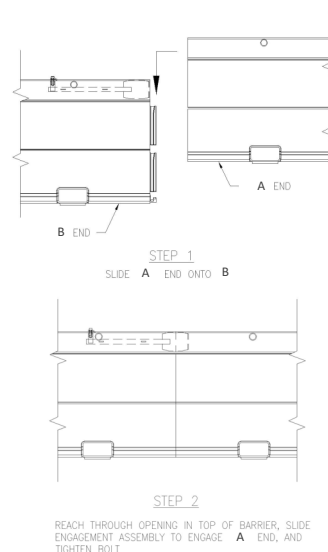
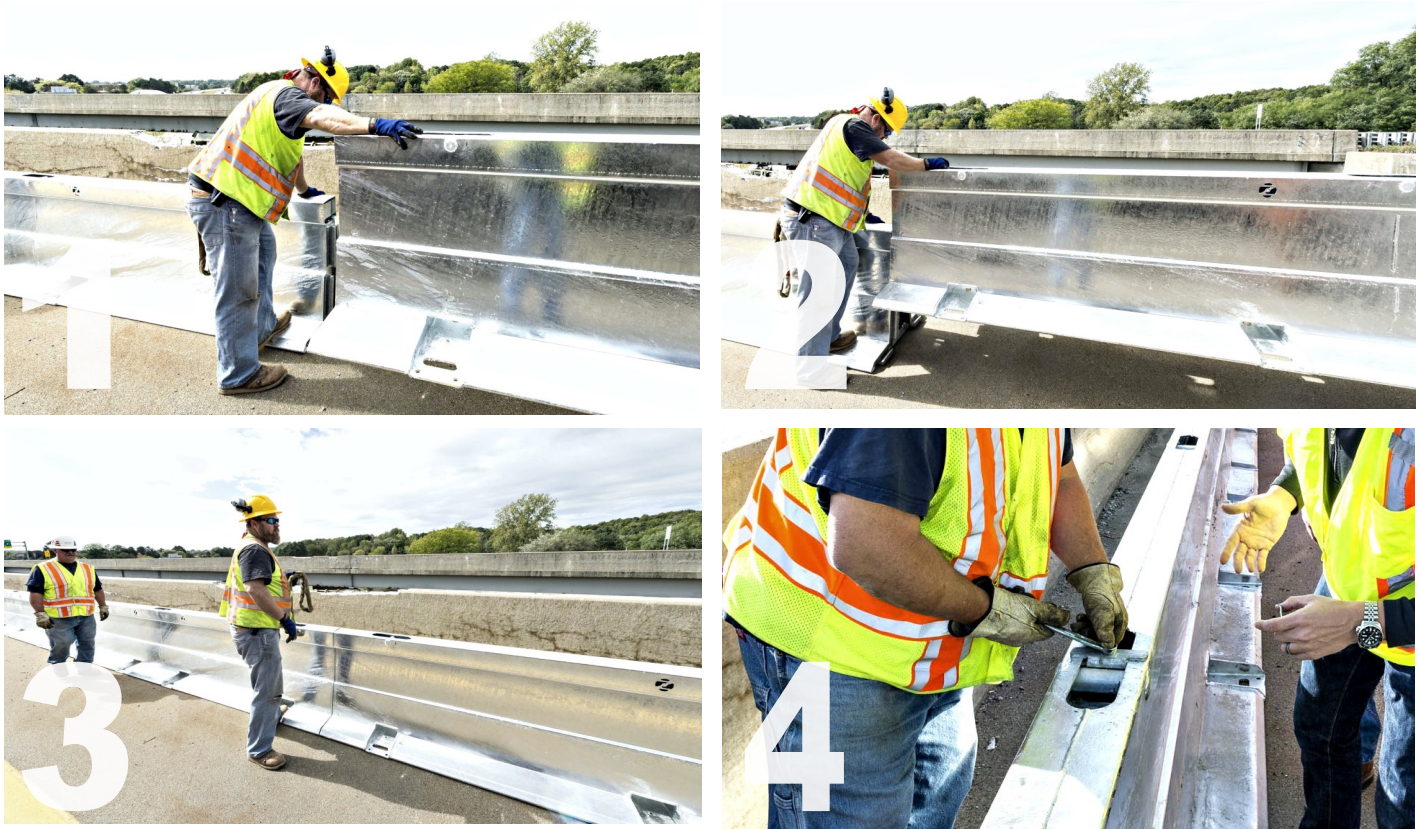

Figure 4
FIGURE 6
- a) Speed Joint Connection—Suspend the piece so that the bottom of the suspended upper speed joint of the A end aligns with the top of the upper speed joint of the B end that is on the ground. Lower the suspended unit until it locks in place and the top of both units are flush. See Figure 4 for the speed joint connection detail and Figure 6 for speed joint connection sequence.